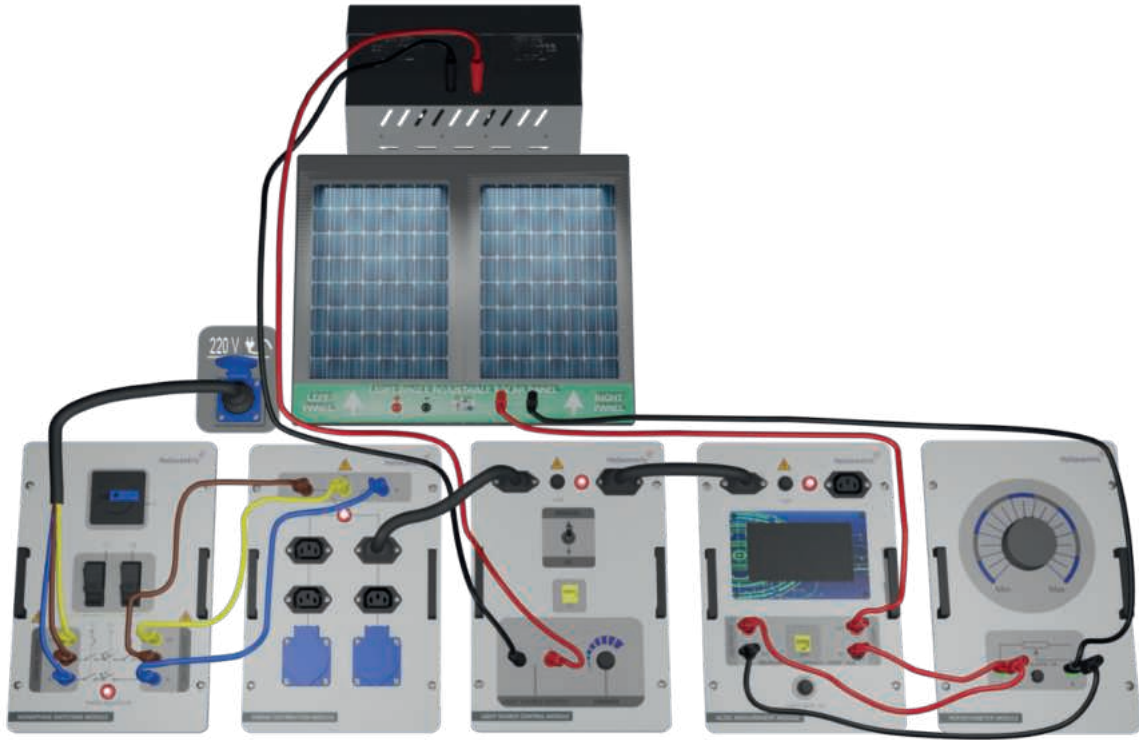

Figure-41. Installation Image of Examination of the Loaded Output Voltage Due to the Season Change of the Photovoltaic Panel
1. Set up the connection as specified in Figure-41. Ensure a constant level of light in the laboratory by creating an average scenario. Any alterations to the positions of the lamps or curtains will have an impact on the experimental outcomes.